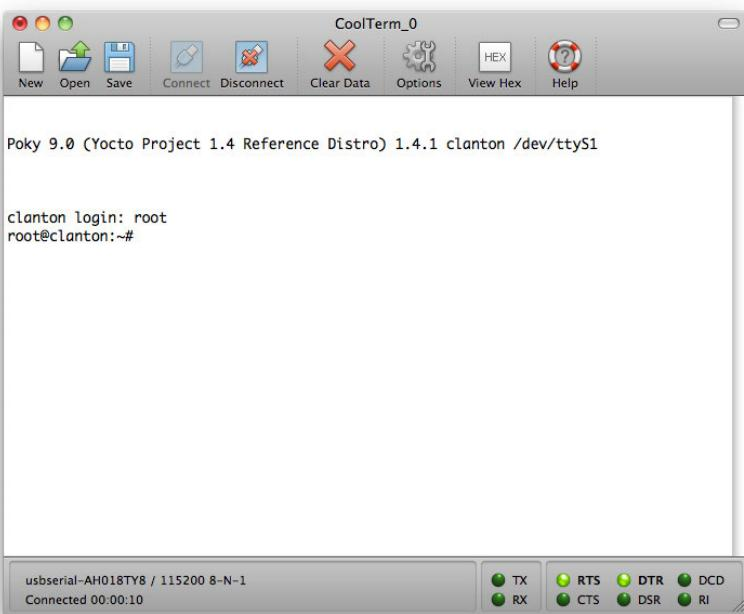

Figure H-4. CoolTerm connected to Galileo and logged in
15. Log in with the username `root` and press Enter (Figure H-4).